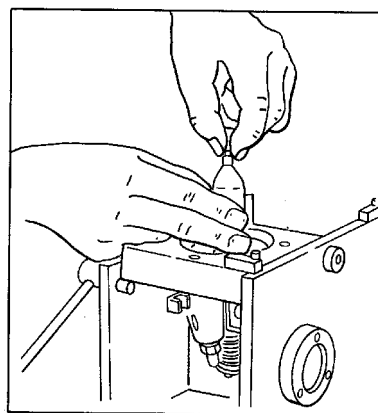

Figure 40. Tightening Injector Nut by Hand
8. Lubricate the threads in the injector nut and carefully thread the nut on the injector body by hand. Rotate the spray tip between your thumb and first finger while threading the nut on the injector body (Fig. 40). Tighten the nut as tight as possible by hand. At this point, there should be sufficient force on the spray tip to make it impossible to turn with your fingers.